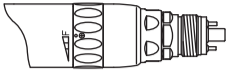

Fig. 3
- (1) Forward Rotation : Turn the FWD/REV change ring to “F” as shown in Fig. 3.